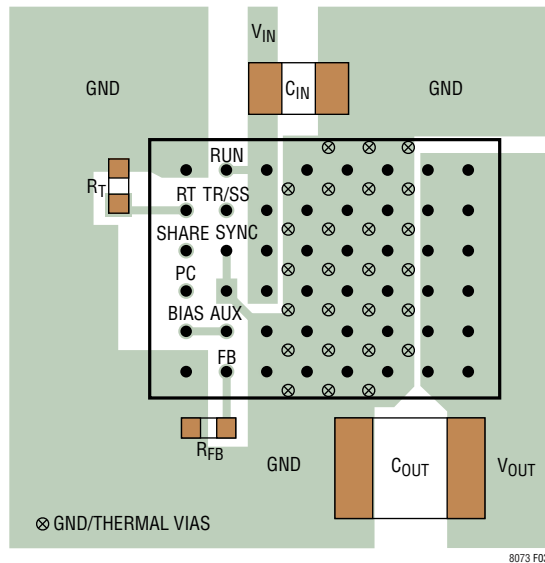

Figure 3. Layout Showing Suggested External Components, GND Plane and Thermal Vias
minimize EMI and ensure proper operation. Even with the high level of integration, you may fail to achieve specified operation with a haphazard or poor layout. See Figure 3 for a suggested layout. Ensure that the grounding and heat sinking are acceptable.
6. Use vias to connect the GND copper area to the board's internal ground planes. Liberally distribute these GND vias to provide both a good ground connection and thermal path to the internal planes of the printed circuit board. Pay attention to the location and density of the thermal vias in Figure 3. The LTM8073 can benefit from the heat-sinking afforded by vias that connect to internal GND planes at these locations, due to their proximity to internal power handling components. The optimum number of thermal vias depends upon the printed circuit board design. For example, a board might use very small via holes. It should employ more thermal vias than a board that uses larger holes.